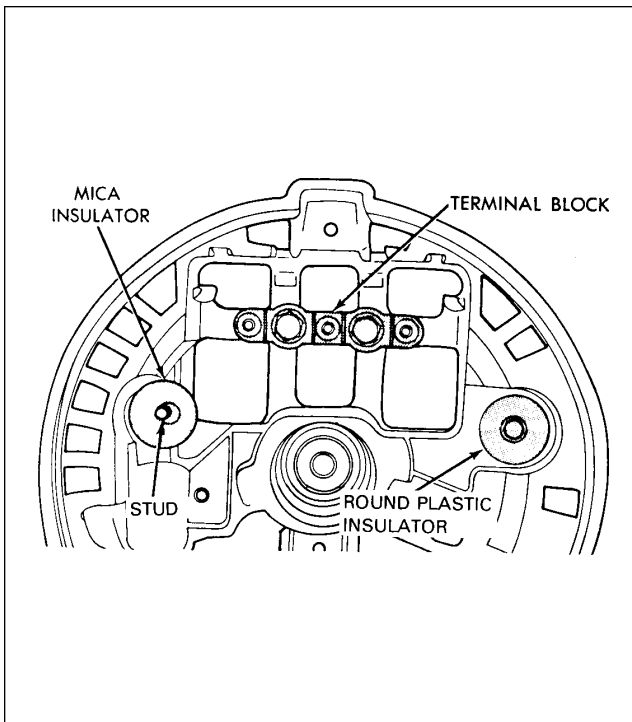

Figure 24-22. Installation of Insulators
7. Install the round plastic insulator, flat face up, in the battery stud hole in the end shield. (Refer to Figure 24-22.)